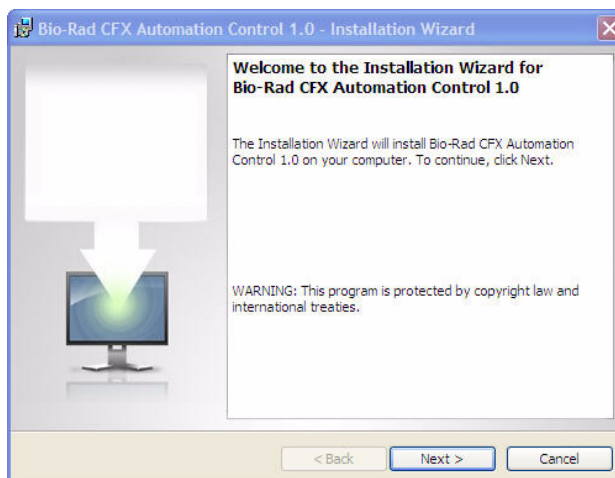

Figure 11. Software installation screen.
2. Double-click **setup.exe** to launch the software installation (Figure 11).
3. Click **Next** on the software installation screen (Figure 11).